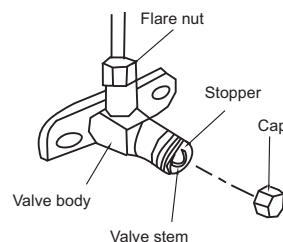

Fig.9-6
- Check all the joints with the leak detector or soap water. (See Fig.9-6 as a reference illustration)
- All the stop valves should be opened before test operation. Each air conditioner has two stop valves of different sizes on the side of the outdoor unit which operate as Lo-stop value, respectively. (Refer to Fig.9-6)